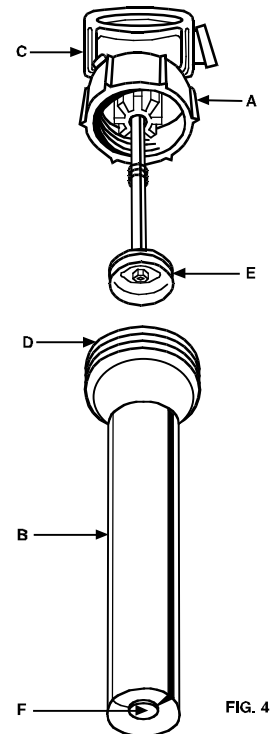

FIG. 4
- Lift pump plunger and apply approximately 10 drops of 20 weight or heavier motor oil in hole provided in top of tank cap. (A)
Step 4. Check pump assembly. See fig. 4.
- Remove pump plunger by holding pump cylinder (B) firmly and pushing tank cap (A) up with thumbs to remove.
- Inspect cylinder gasket (D). If soiled, clean all surfaces of gasket and rim of tank with clean lint-free cloth. If split or worn, replace using parts from Kit R-30C (refer to back page).
- With pump still disassembled, inspect pump cup (E) for damage. If in good condition, wipe off any foreign particles. If damaged, replace using parts from Kit R-30C (refer to back page). Oil with 20 weight or heavier motor oil.
- Inspect check valve (F). If soiled, clean with lint-free cloth. If worn or split, replace using parts from Kit R-30C (refer to back page).